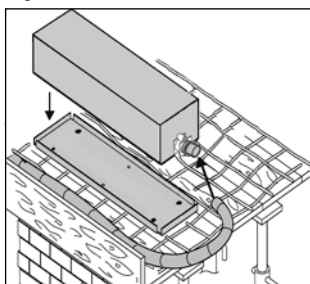

Fig. 10
3. Connect the concrete ceiling box with the feeding pipe and firmly press on the cover plate (fig. 10).